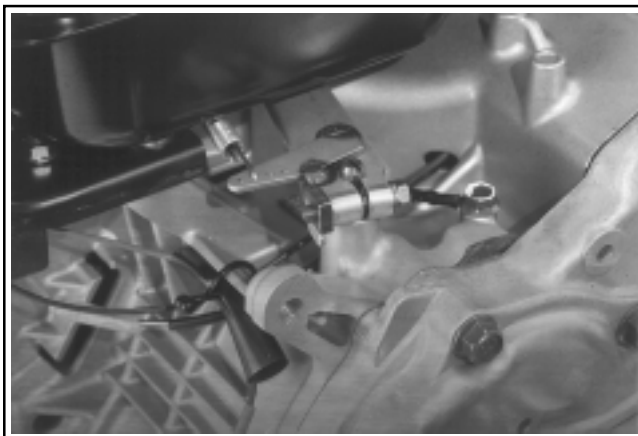

Figure 11-85. CS8.5-12. Ground Lead Location.
**CS8.5-12:** Reattach the ignition system ground lead to the crankcase boss adjacent to the governor shaft (See Figure 11-85) or to the control module mounting bolt location based on model involved.